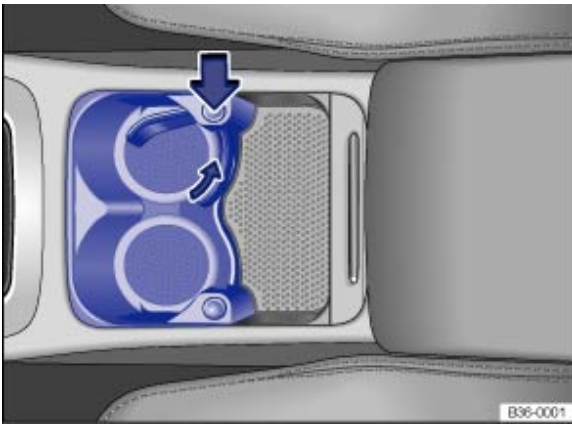

Fig. 125 In the front centre console: drink holders (type 1) Fold out holder in drink holder
- Press the button → Fig. 125 (thick arrow) to release the holder.
- Turn the holder back into the console → Fig. 125 (small arrow). The holder must engage.